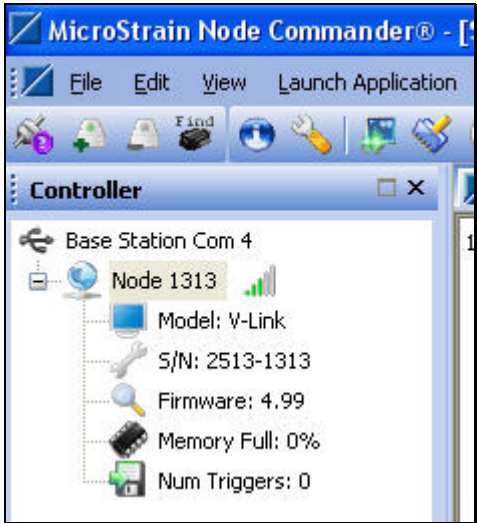

Figure 7
- Click **Load Node Information**. A tree of information (**Model, Serial number, Firmware, Memory Full and Num Triggers**) will open up under the node. See Figure 7. This indicates that the PC, the base station and the node are all communicating.